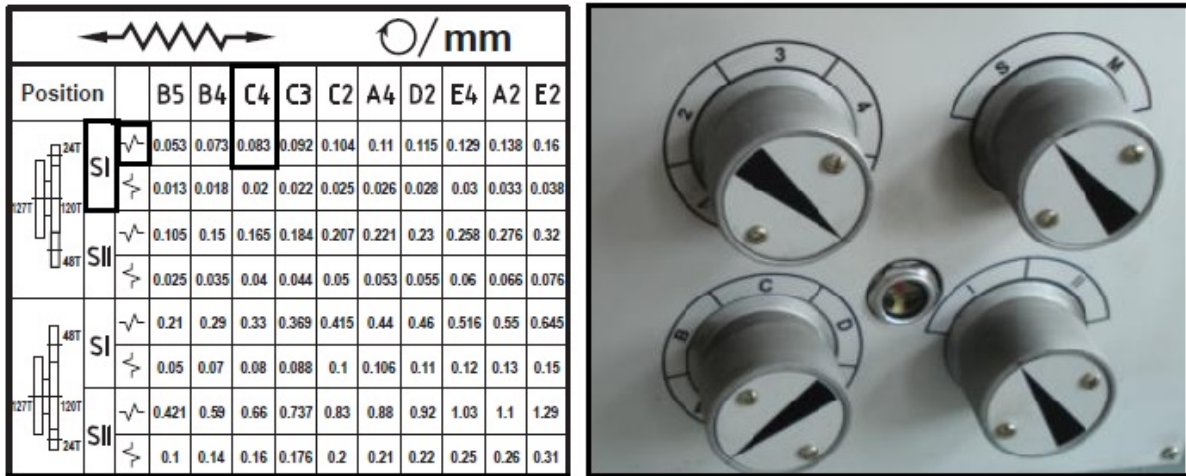

Figure 40
4. The quick change gearbox there are four knobs, turn the first knob to “4” position, turn the second knob to “S” position, turn the third knob to “C” position and turn the fourth knob to “I” position. See **Figure 40**. Leaving 0.08mm–0.15mm backlash between gear teeth, arranges the 24 teeth change gear to 120 teeth and 120 teeth to 48 tooth change gear.
4. Turn the first knob of the quick change gearbox to “2” position, turn the second knob to “M” position, turn the third knob to “A” position and turn the fourth knob to “I” position. See **Figure 40**. Leaving 0.08mm–0.15mm backlash between gear teeth, arranges the 24 teeth change gear to 120 teeth and 120 teeth to 48 tooth change gear.